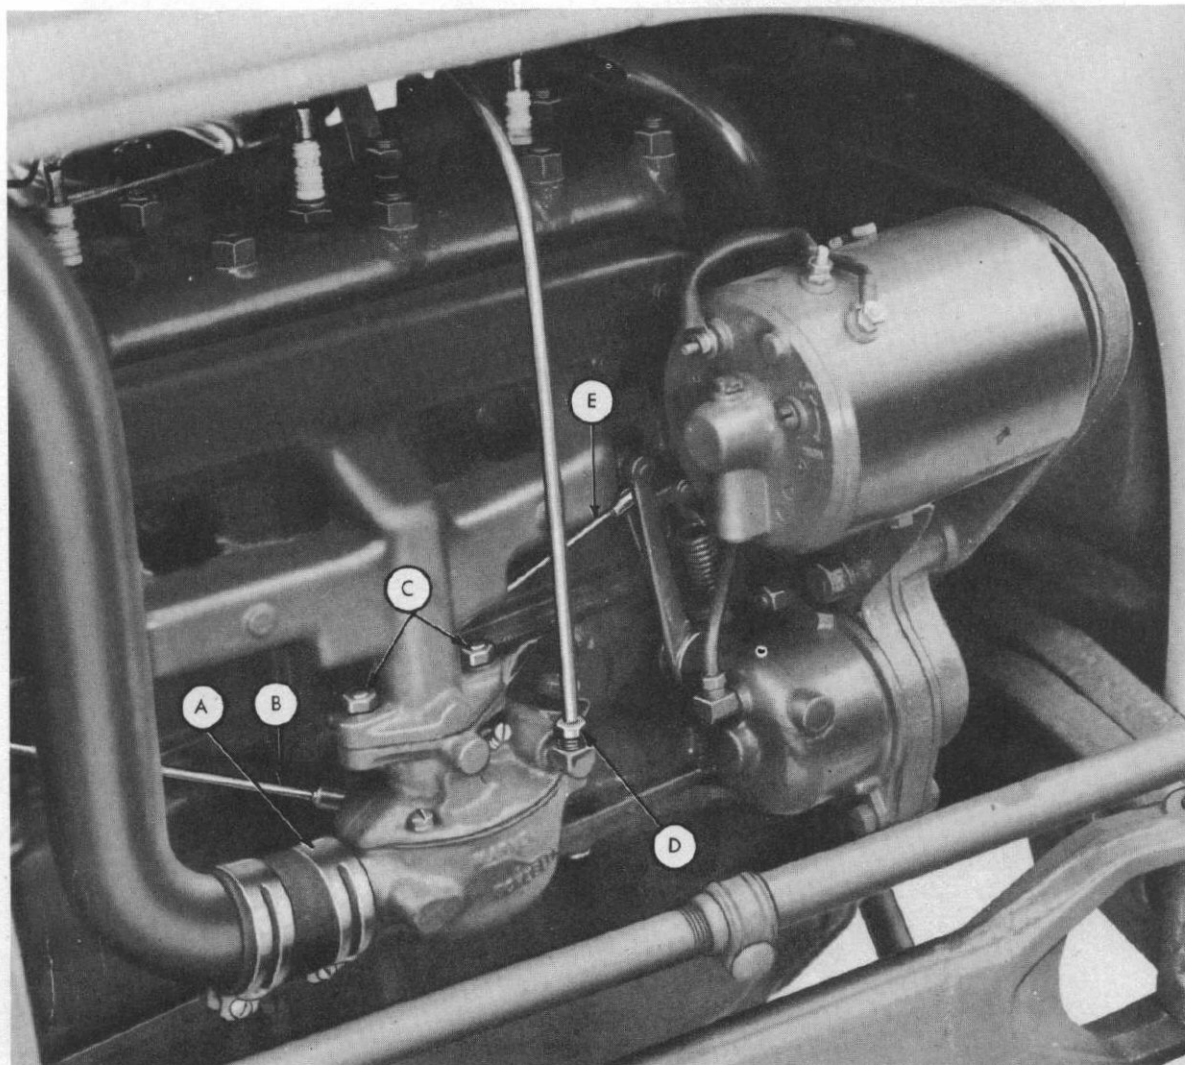

Fig. 1
Step 1—Disconnect the choke (B-Figure 1).
Step 2—Disconnect the governor control rod (E-Figure 1).
Step 3—Disconnect the air cleaner pipe (A-Figure 1).
Step 4—Disconnect the fuel line at (D-Figure 1).
Step 5—Remove the two hex head nuts (C-Figure 1) and remove the carburetor from the manifold.